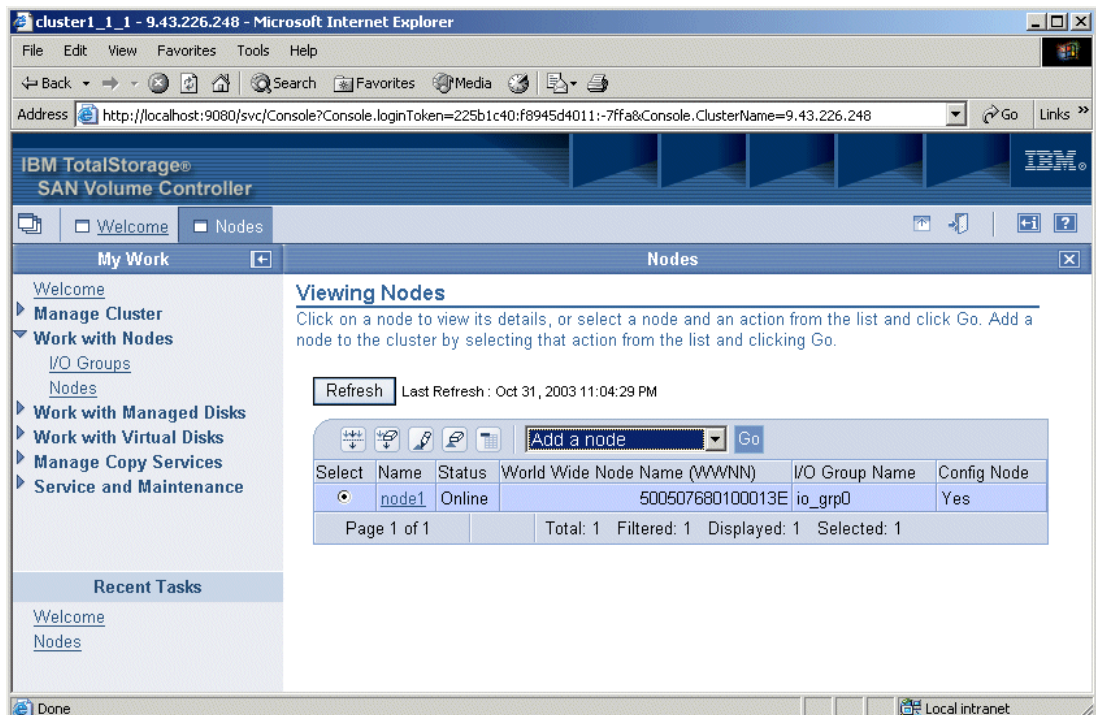

Figure 6-11 Viewing Nodes panel
6. The Viewing Nodes panel (Figure 6-11) opens. Note the input/output (I/O) group name (for example, ITS0\_grp0). Select the node you want to add. Ensure that **Add a node** is selected from the list and click **Go**.